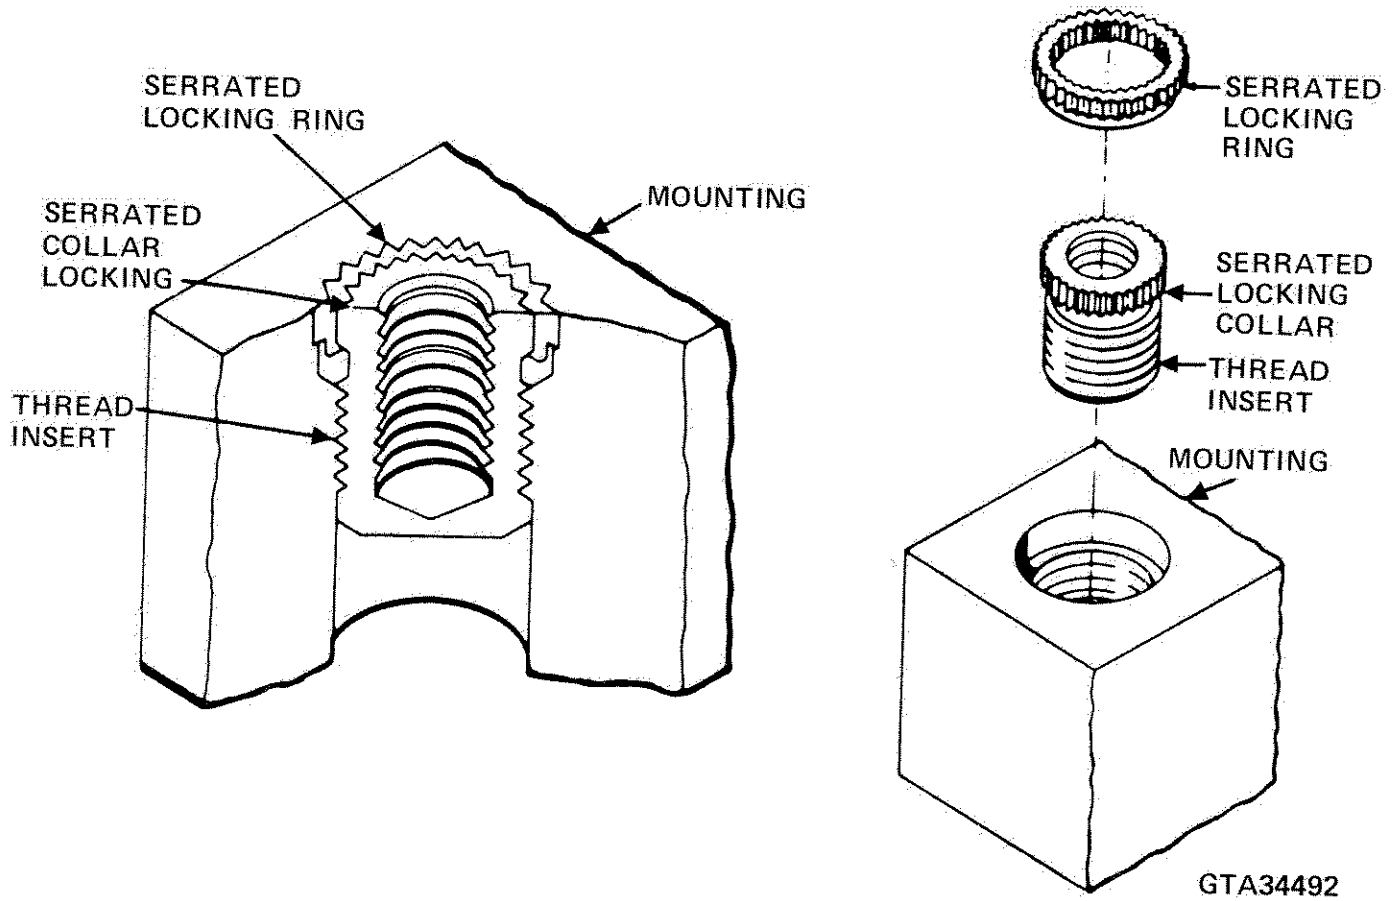

Figure 6-15. Locking (Rosan) Screw Thread Insert.
1. Three types of screw thread inserts can be used for repair purposes. The Rosan insert (Figure 6-15) is a two-piece, solid metal insert consisting of the threaded insert with
6-6.10 Locking (Rosan) Screw Thread Insert. (Figure 6-15).